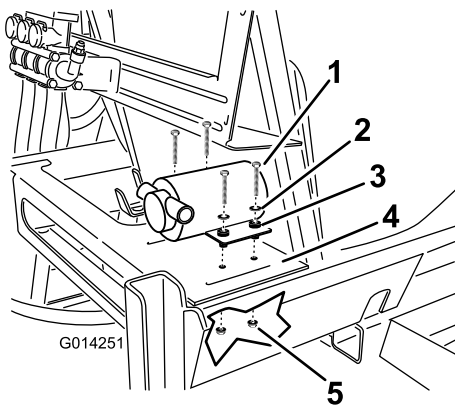

Figure 19
1. Secure the rinse pump to the tank frame on the platform at the rear, right side of the main tank with 4 bolts, 4 washers, and 4 locknuts (Figure 19).